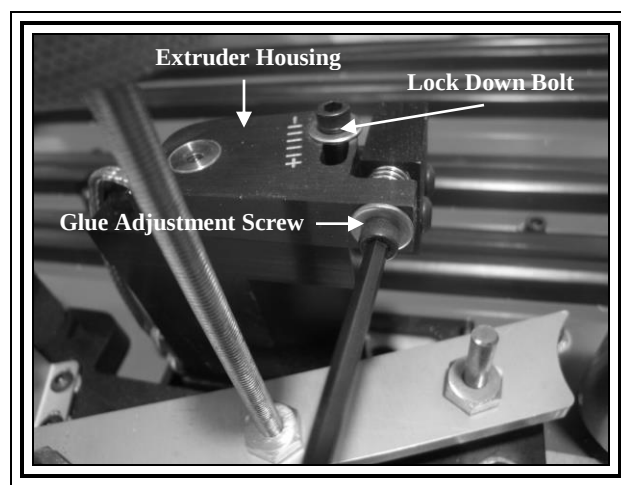

FIGURE 15
7. Glue Application Adjustment (Figure 15)
To adjust the amount of glue being applied, slightly loosen the lock down bolt using the 1/8" allen key wrench. Then use the 1/8" allen, as shown in **Figure 15**, to adjust your Glue adjustment screw. Turning the glue adjustment screw clockwise will increase the amount of glue and turning it counter clockwise will reduce it. This adjustment is done while at operating temperature and while auger is turning. **CAUTION: These parts are extremely hot and can produce severe burns.**